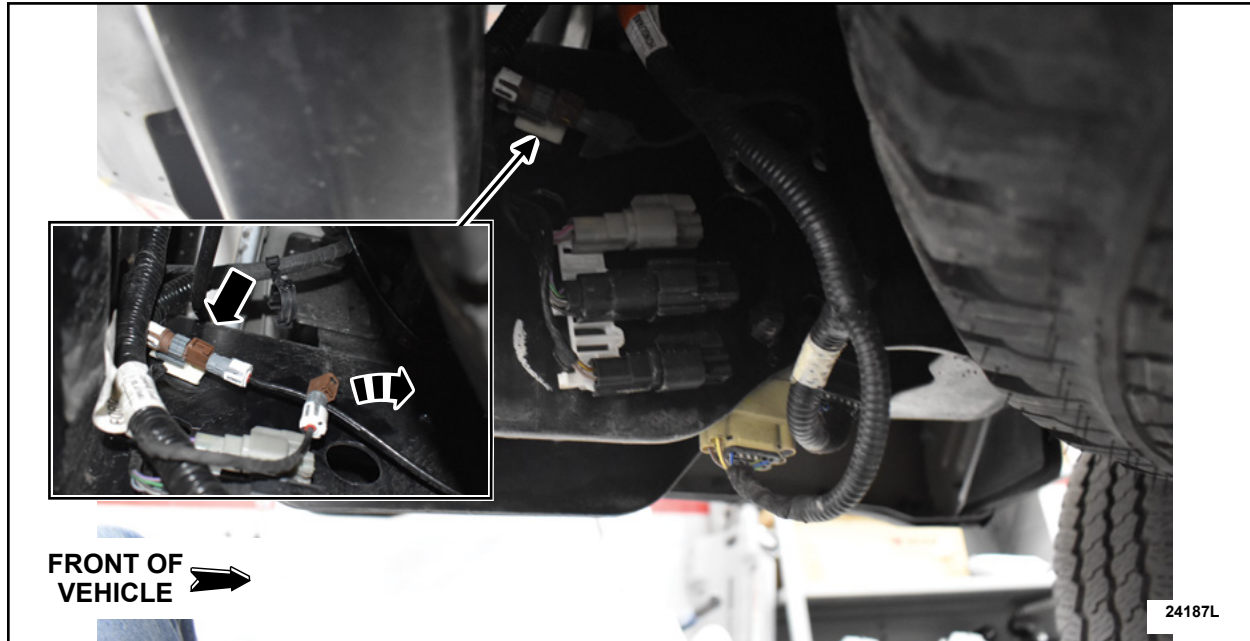

FIGURE 10
9. With the vehicle in Neutral (N) position, raise the vehicle on a hoist. Follow the Workshop Manual (WSM) procedures in Section 100-02.
10. Locate, disconnect and position aside the underbody coax connector C465, on the left rear side inboard frame, shown in Figure 10. Then, connect the *new* overlay harness connector and secure the *new* harness to the existing body harness using zip ties.